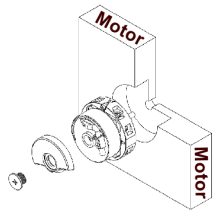

Figure 3-7
- 1) Remove the front cover of the encoder to expose the conical shaft, as shown in Figure 3-7.